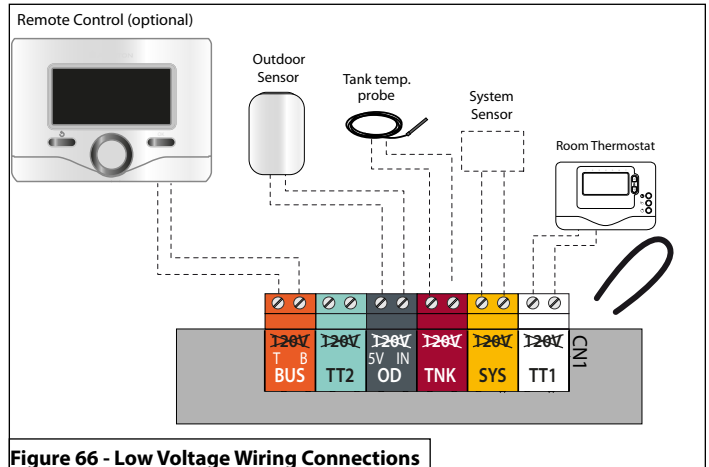

Figure 66 - Low Voltage Wiring Connections
3. Connect the room thermostat wires to the terminals indicated in Table 18 and Figure 66.